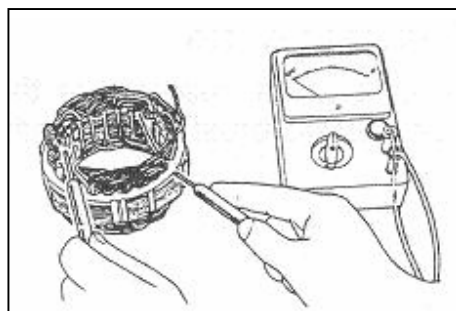

Fig. 9-43
- ② Make coil for earth. Check that there is continuity between coil and core. If there is continuity, replace stator assembly. (see fig.9-43)